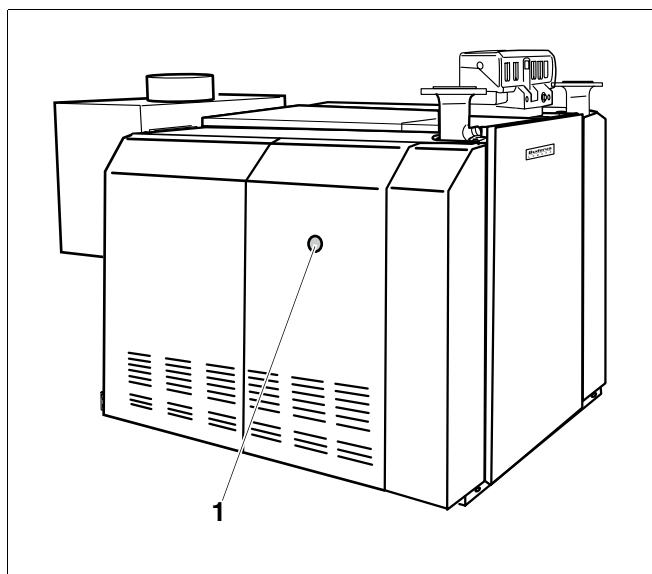

Fig. 8 Reset button
- Press the reset button (Fig. 8, **Item 1**). If the gas burner will not start after pressing the reset button several times (see Chapter 11 "Troubleshooting", page 55).